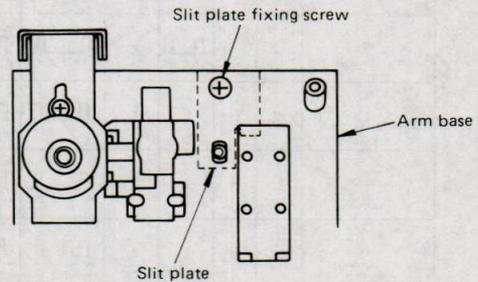

Fig. 11
- 2) Remove the slit plate from the arm base, as shown in Fig. 11.